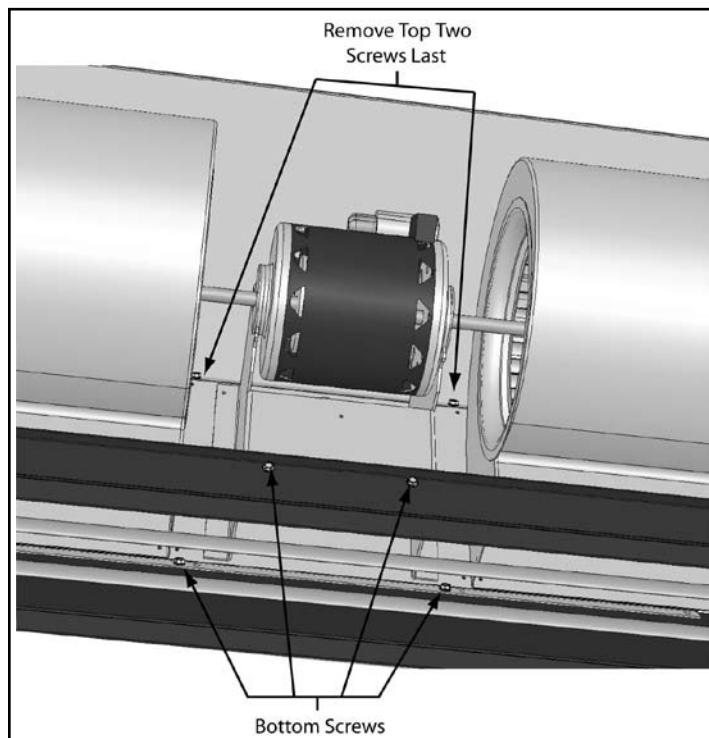

FIGURE 12 - Location of screws
5. Using a $\frac{5}{16}$ " socket on a 12" extension, loosen and remove the (6) self drilling screws from the blower plate and transverse. Remove the two screws at the top of the product last, as after they are removed, the module will be free to drop out of the cabinet. **See Figure 12** for location of all screws.